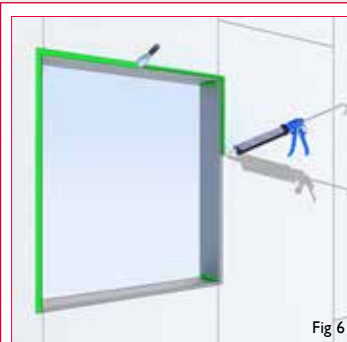

Fig. 6
1. Pre-fill joints, gaps and cracks >6mm with a bead of Wrraprite LF and allow to cure fully. (Fig.6)